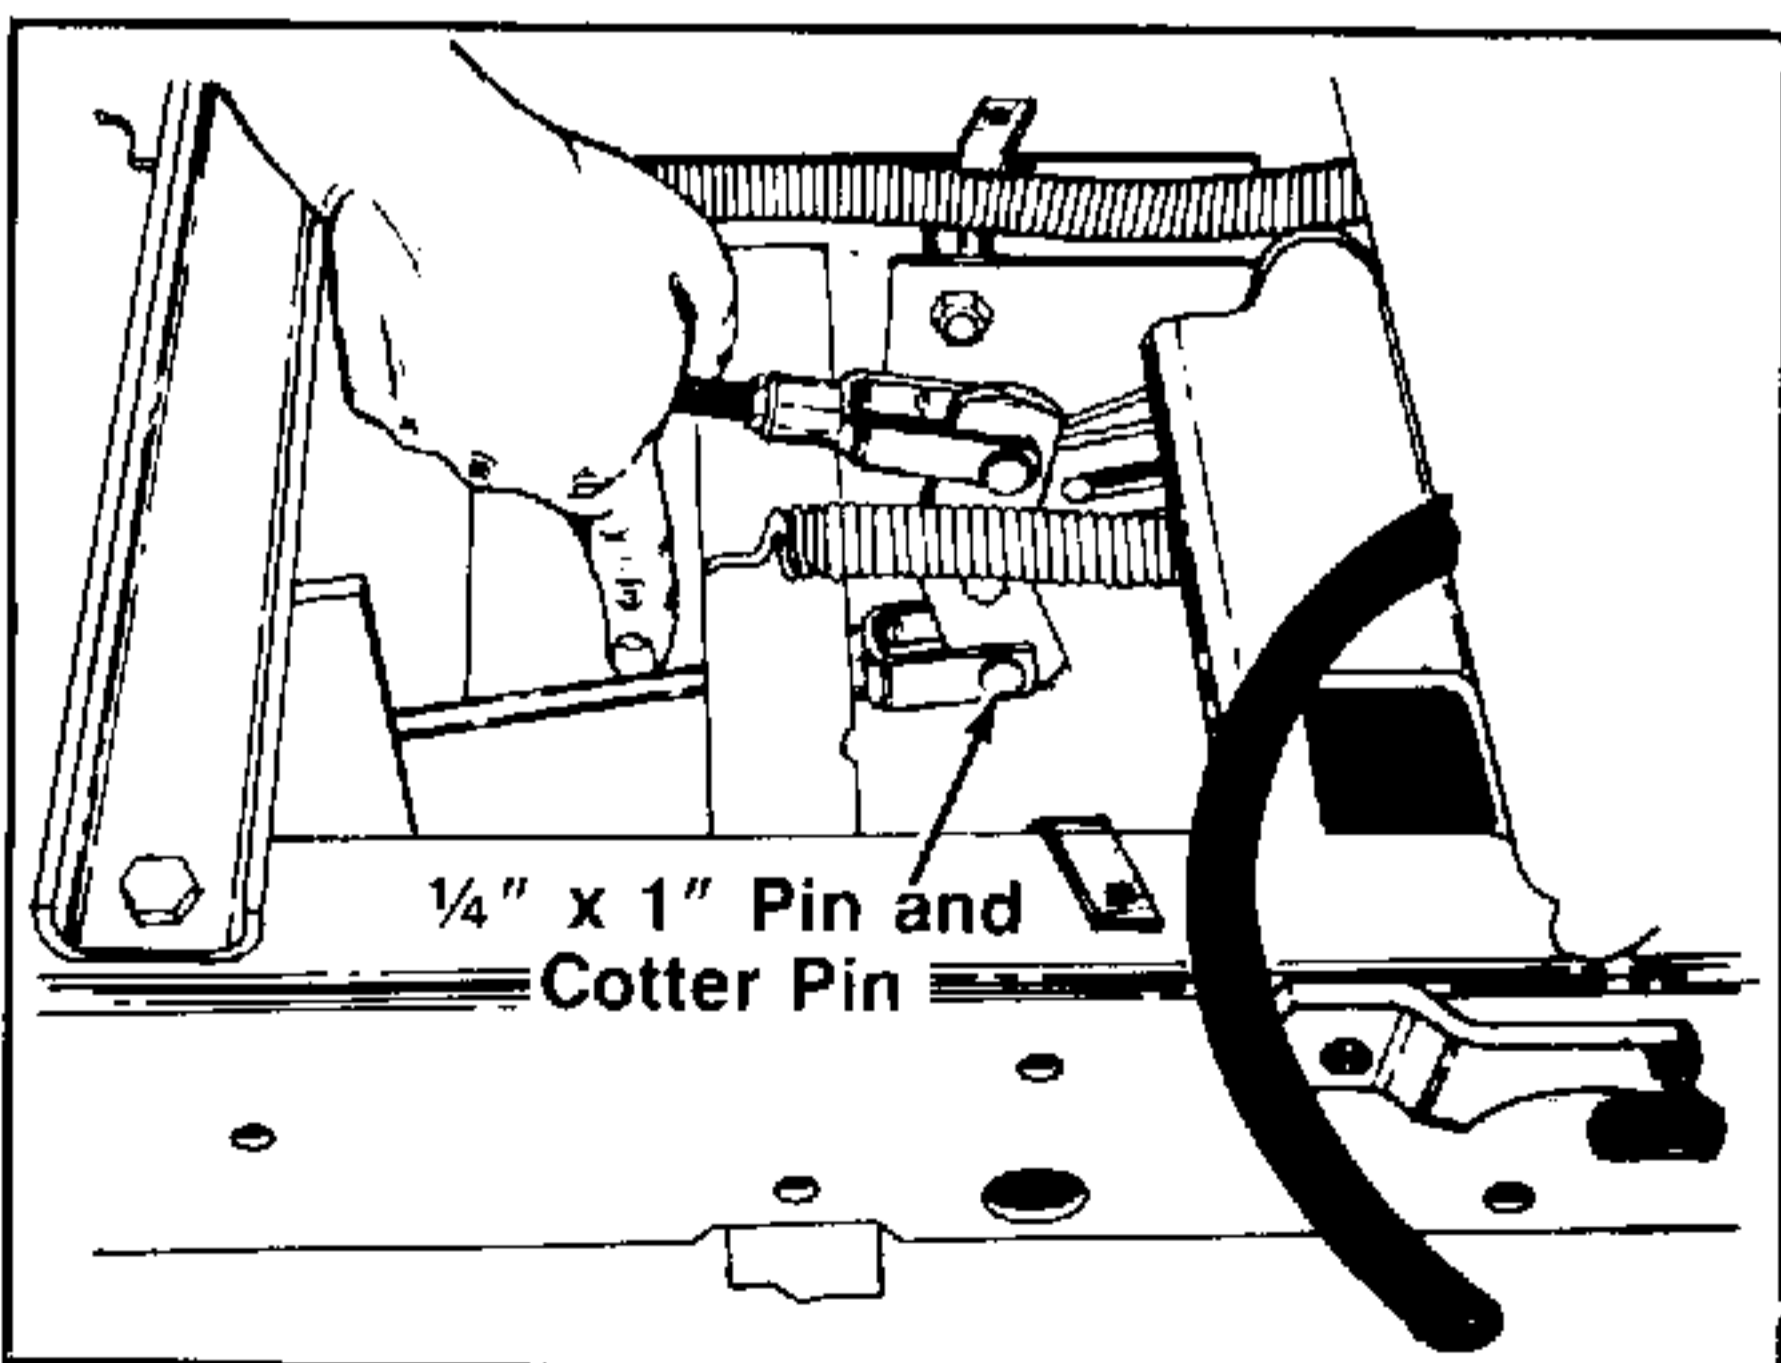

FIGURE 3.
4. Remove hydrolinkage at pivot bracket, by removing 1/4" x 1" pin and cotter pin. See figure 3.